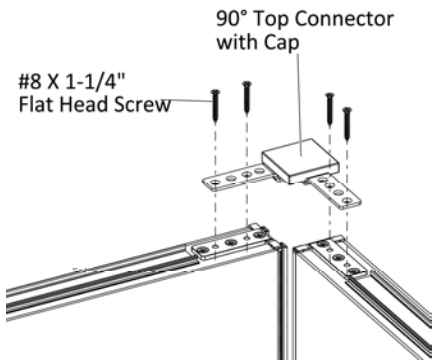

Figure 8
- 14.** Position the 90-degree top connector with cap on top corner of the panel which is to be connected, (Figure 8).